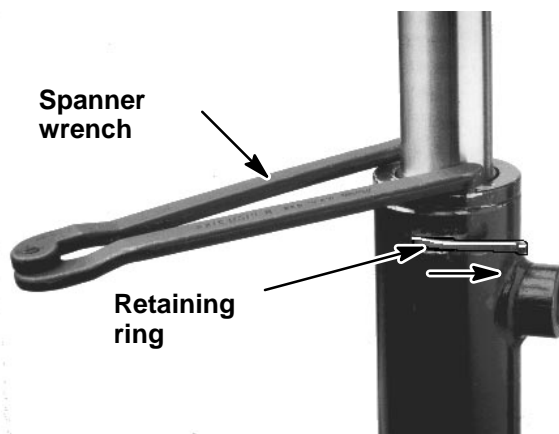

Figure 61
2. Mount lift cylinder in a vise so that the shaft (6) end tilts up slightly. Remove and discard dust seal (12).
3. Rotate head (3) with a spanner wrench and remove retaining ring (1) as shown in Figure 61.
4. Grasp end of shaft (6); extract shaft, head (3), and piston (8) by carefully twisting and pulling on the shaft.